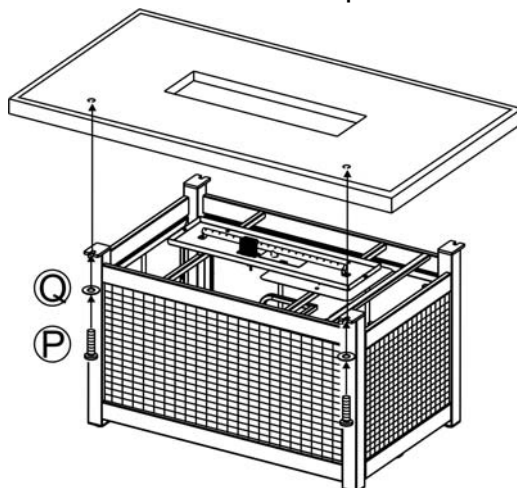

Figure 3
- Place the firepit base onto the tabletop. Secure the end of firepit base to the tabletop by using the 1/4" x 20mm screws and washers that are provided. See Figure 3.